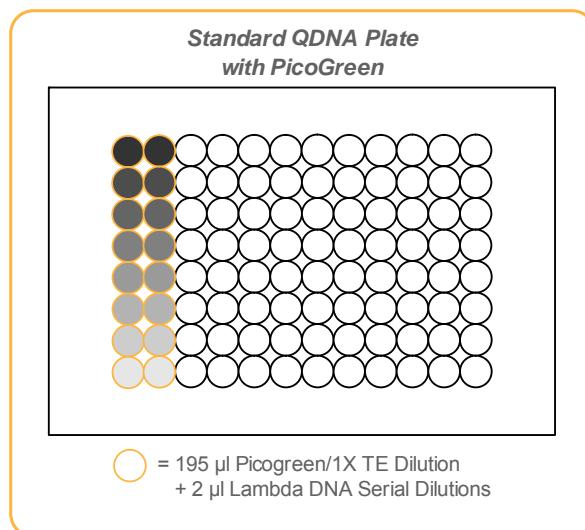

Figure 12 Standard QDNA Plate with PicoGreen
4. Using an 8-channel pipette, transfer 195 μ l PicoGreen/1X TE dilution into each well of columns 1 and 2 of the Standard QDNA Fluotrac plate (Figure 12).